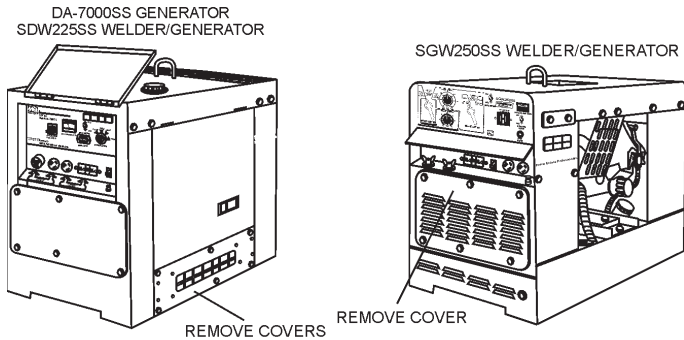

Figure 3. Remove Access Covers
3. Remove side covers to provide access to the interior of the cabinet. For SGW250SS welders, remove the cover located underneath the control panel to provide access to the cabinet interior (Figure 3).